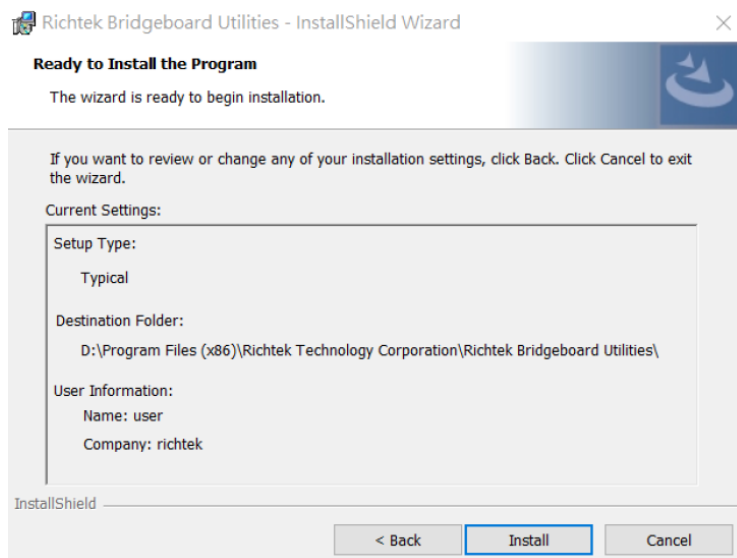
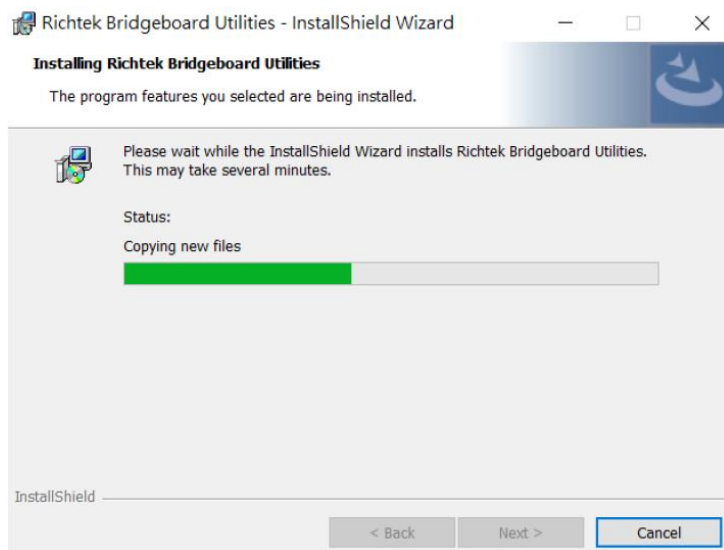
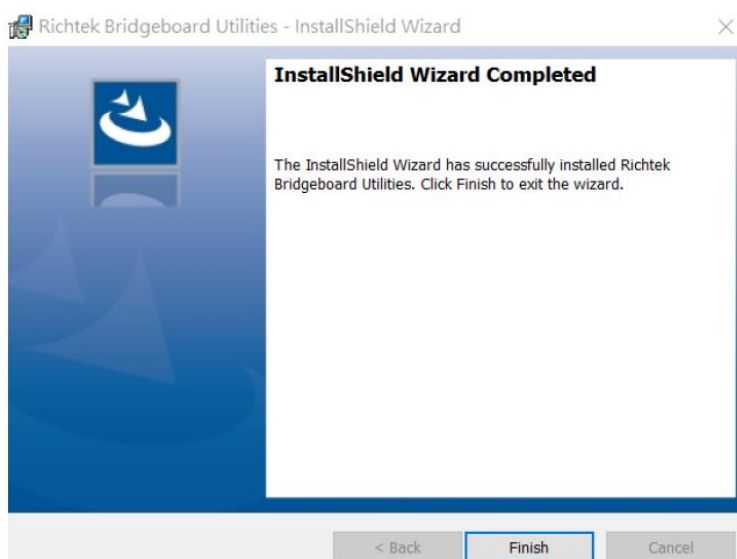

Figure 10. Driver Installation Step 10
Figure 11. Driver Installation Step 11
Figure 12. Driver Installation Step 12
Step 10 to 12: As shown in Figure 10, after confirming that all information is correct, click the "Install" button and wait for the installation progress bar to complete, as depicted in Figure 11. Once the installation is finished, click "Finish" to complete the entire driver installation process, as shown in Figure 12.